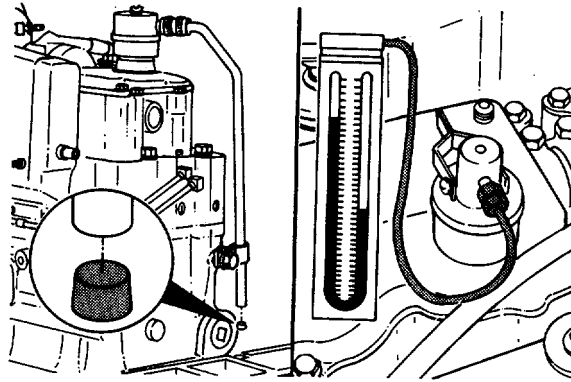

FIGURE 2-5. Blowby Check.
- a. Measure the blowby by installing a plug in the crankcase breather vent (FIGURE 2-5).